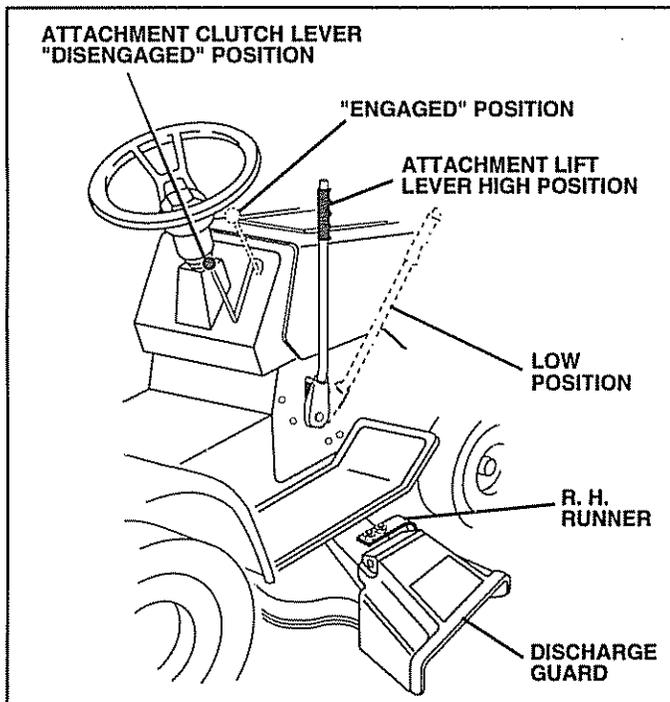

FIG. 8
- Slide seat until a comfortable position is reached which allows you to press clutch/brake pedal all the way down (See Fig. 8).
## TO OPERATE MOWER (See Fig. 8)
- Use the runner on the right hand side of mower as a guide. The blade cuts approximately an inch outside the runner (See Fig. 8)